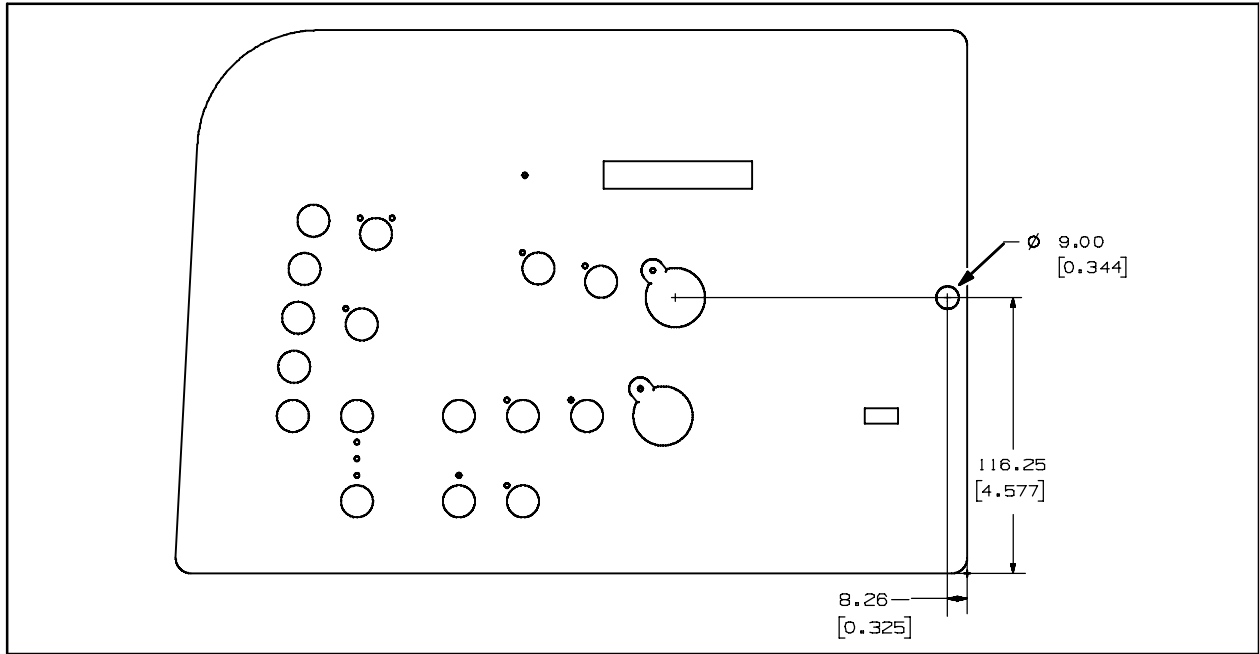

FIG. 13
46. Drill a 11/32" (0.344) hole through the instrument panel assembly. Refer to Fig. 13.
50. Insert the LED light into the hole drilled into the 11/32" (0.344") hole. Refer to Fig. 13.